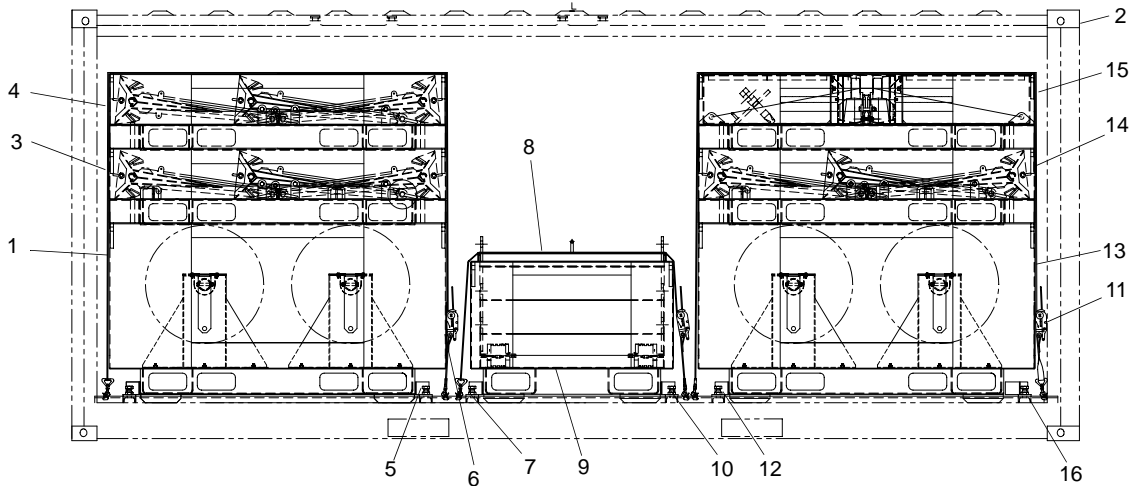

Figure 21. Onshore Anchor Container
21. Using forklift, position a mooring cable pallet (figure 21, item 1) inside the container (figure 21, item 2) door.
22. Using forklift, place the lower anchor pallet (figure 21, item 3) on top of mooring cable pallet (figure 21, item 1).
23. Using forklift, place the upper anchor pallet (figure 21, item 4) on top of the lower anchor pallet (figure 21, item 3).
24. Using forklift and push-pull rod, push the pallet stack (figure 21, items 4, 3 and 1) to rear of container (figure 21, item 2), against track stop.
25. Install and lock track stop (figure 21, item 5) in front of mooring cable pallet (figure 21, item 1).
26. Pull two tie down straps (figure 21, item 6) over the pallets and attach the loose ends to the floor track. Tighten tie down straps (figure 21, item 6).
27. Install and lock hardware storage pallet track stop (figure 21, item 7) at the red marks on the floor track.
28. Using forklift, position the hardware storage pallet (figure 21, item 9) inside the container door.
29. Hook one end of two tie down straps (figure 21, item 8) to floor tracks. Lay the straps on the floor, to the sides of the container.
30. Using forklift and push-pull rod, push the hardware storage pallet (figure 21, item 9) in container (figure 21, item 2), against track stop (figure 21, item 7).
31. Install and lock pallet track stop (figure 21, item 10) in front of hardware storage pallet (figure 21, item 9).
32. Pull two tie down straps (figure 21, item 8) over the hardware storage pallet (figure 21, item 9) and attach the loose ends to the floor track. Tighten tie down straps (figure 21, item 8).
33. Hook one end of two tie down straps (figure 21, item 11) to floor tracks. Lay the straps on the floor, to the sides of the container.
34. Install and lock pallet track stop (figure 21, item 12) at the red marks on the floor track.
35. Using forklift, place the mooring cable pallet (figure 21, item 13) in container (figure 21, item 2), pushing it against track stop (figure 21, item 12).
36. Using forklift, place anchor pallet (figure 21, item 14) on top of mooring cable pallet (figure 21, item 13).
37. Using forklift, place storage box pallet (figure 21, item 15) on top of anchor pallet (figure 21, item 14).
38. Install and lock mooring cable pallet track stop (figure 21, item 16).
39. Pull two tie down straps (figure 21, item 11) over the pallets and attach the loose ends to the floor track. Tighten tie down straps (figure 21, item 11).